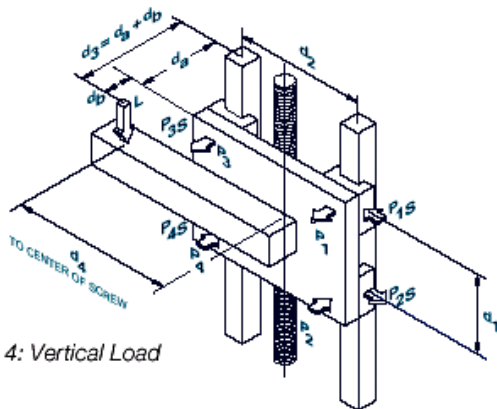

Figure 4: Vertical Load
Figure 4 shows a load applied to the positioner carriage which translates vertically. The load vector (L) is shown applied at a point whose coordinate distances from the center of the carriage bearing system are given by distances d3 and